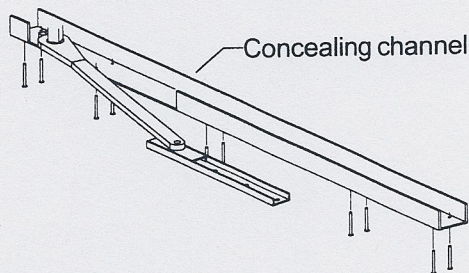

Figure 15-1
- 15.1. For concealed header applications using offset arm with butt hung and offset pivoted doors **only**, prepare header dress plates for concealing channel (Figure 15-1; see separate Installation Instructions for Offset Arm).
- 15.3. For concealed header applications using offset arm with butt hung and offset pivoted doors **only**, install concealing channel (Figure 15-1).